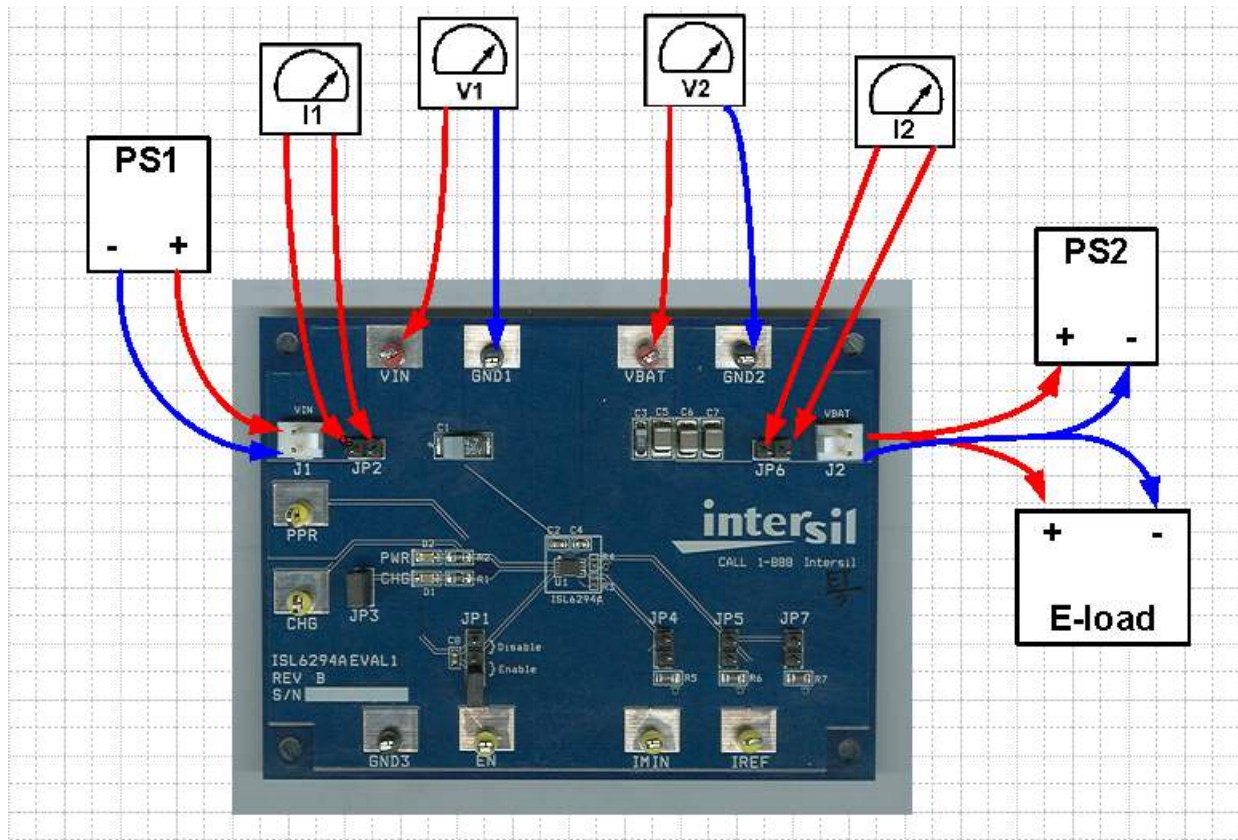

FIGURE 1. CONNECTION OF TEST INSTRUMENTS
Quick Setup Guide (Refer to Figure 1)
- Step 3:** Connect a current meter to JP6, as shown in Figure 1
JP2 - A shunt installed on JP2 connects the input source from connector J1 to the circuit if input current measurement is not needed. The shunt can be replaced by a current meter if input current measurement is needed, as shown in Figure 1.
JP6 - A shunt installed on JP6 connects the BAT pin to the output connector J2 if output current measurement is not needed. The shunt can be replaced by a current meter if output current measurement is needed as shown in Figure 1.